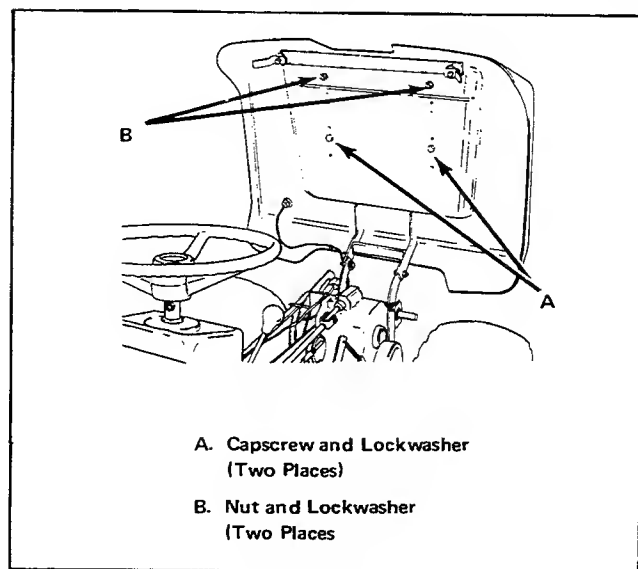

Figure 16. Seat Adjustment
2. Remove the two capscrews and lockwashers (item A, figure 16).